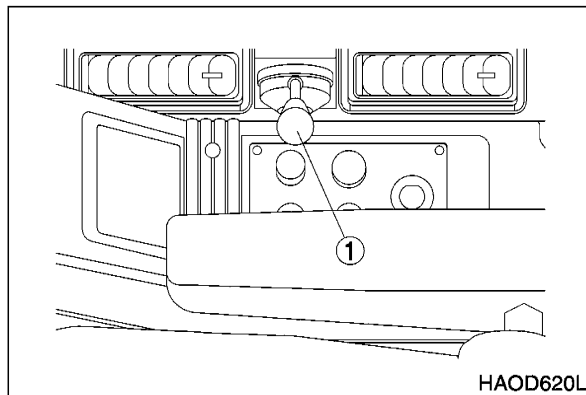

Figure 19
2. Run engine for approximately 5 minutes set at the middle of the speed range, without a load (Figure 19).